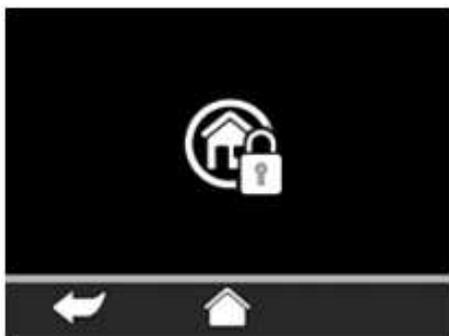

Figure. 38. Heating operating page in permanent protection mode
- The symbol for permanent protection mode appears when the **heating** operating page is called up. Operation is not possible (Figure. 38).